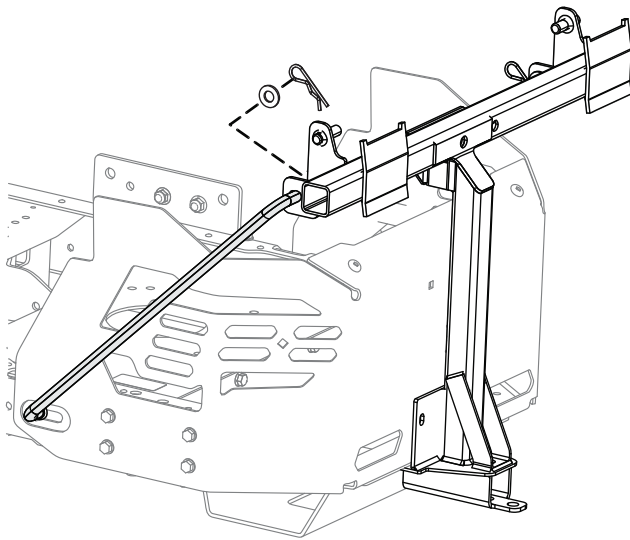

Figure 17
7. Install the bent, flared end of a rod into the keyed slot in the left side of the machine frame, and move the rod rearward to seat it in the frame (Figure 17).
- Insert the bent ends of the rods into the attachment mount as shown in Figure 17 and secure the end of each rod with a washer and hairpin cotter.